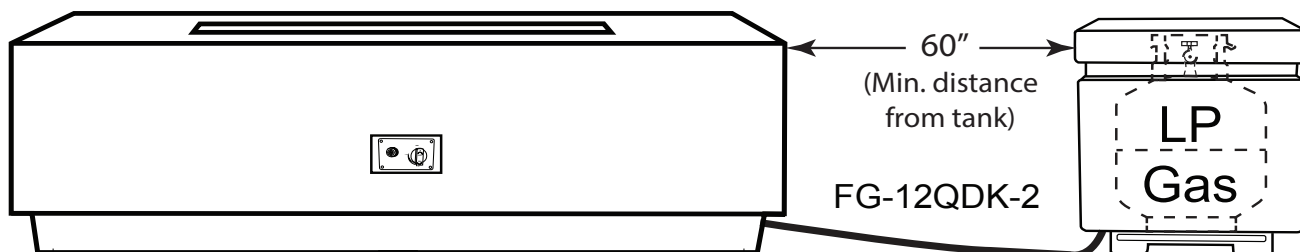

Fig. 3 Shows gas line using an LP quick disconnect.
Each fire feature can be installed on outdoor level flat, stable, non-combustible surface away from any combustible materials. **NOTE:** Do not place fire feature directly on grass, dirt, or rocks as this may prevent proper ventilation (Fig. 3). Water drainage is designed into all Sanctuary Series fire features. **Ensure not to block/plug the drains areas to prevent potential damage to your fire feature.**
1. Do not place an LP tank inside any fire feature enclosure. Locate all propane (LP) tanks outside the enclosure inside an approved separate enclosure a minimum of 60" from the Sanctuary 1. Flex line can run through any vent holes.
2. If using Propane gas an FG-LPRK regulator (not included) must be used and a FG-12QDK-2 quick disconnect kit (not supplied) enables the use of a Propane (LP) gas tank connection. See Fig. 3.